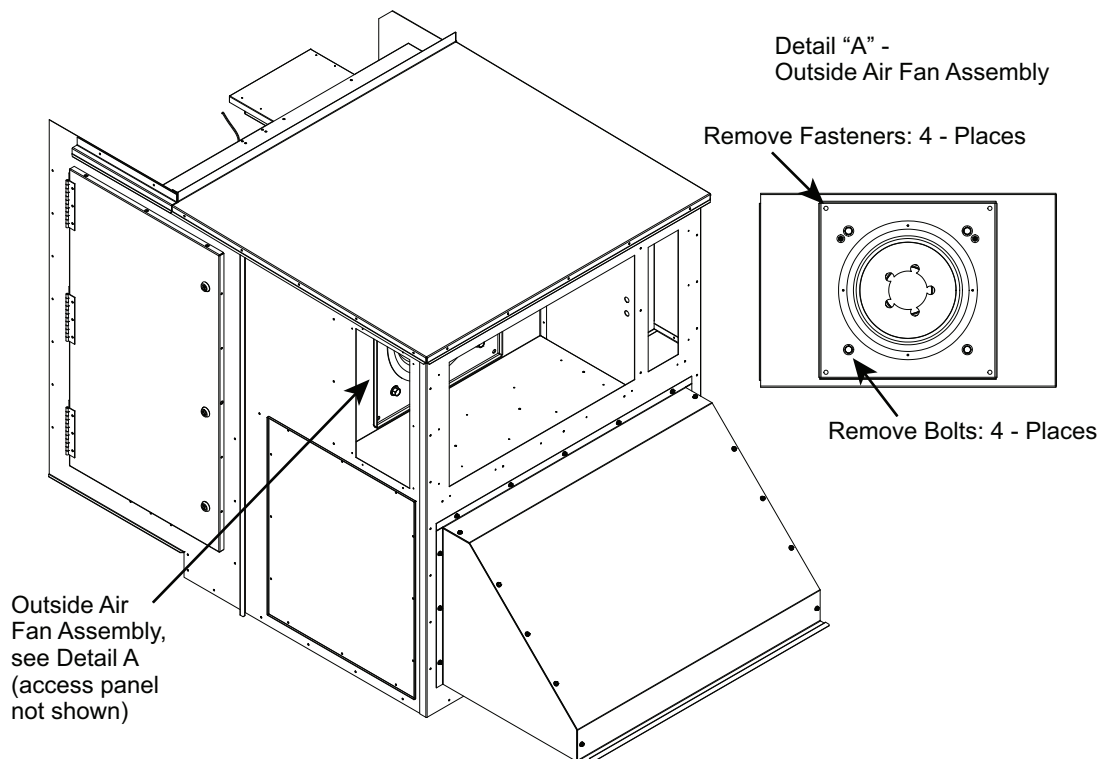

Fig. 56 — Remove Fasteners from Corners of Outside Air Fan Assembly
6. Remove the fasteners at each corner of the outside air fan that secure the outside air fan front panel to the dividing wall by access through the hood opening of the ERV. See Fig. 56.